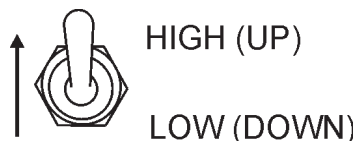

Figure 54. Engine Speed Switch (High)
2. Set the engine speed switch (Figure 54) to the **"HIGH"** position.